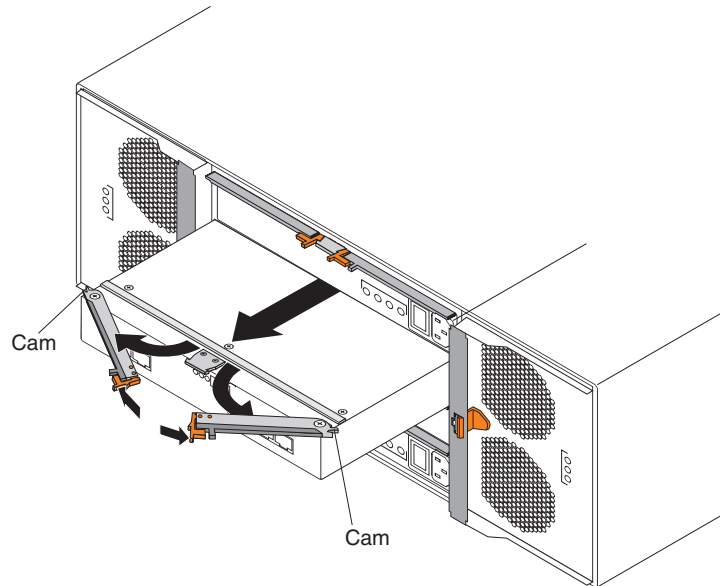

Figure 54. Removing and replacing an Environmental Service Module (ESM)
7. Squeeze the latches together and pull the levers open to release the ESM from the enclosure. The latches are the orange colored tabs on the levers (see Figure 54 on page 113).